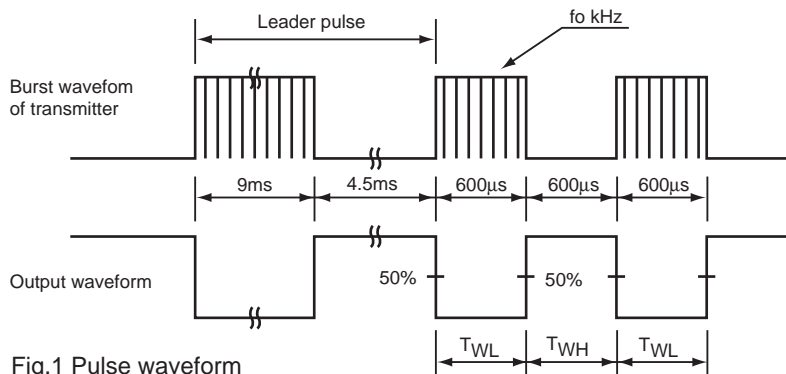
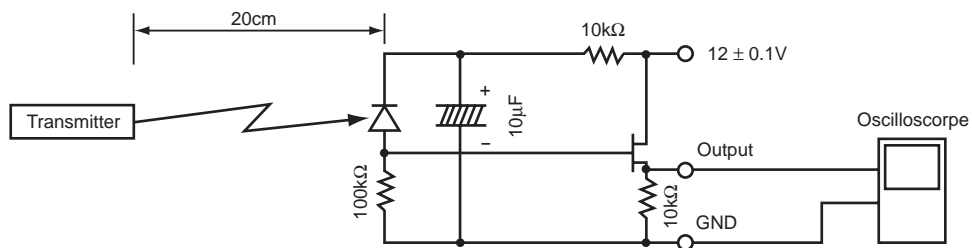

Fig.1 Pulse waveform
Fig.2 The output adjustment of transmitter
*2 As shown in Fig.1, burst wave shall be transmitted by our transmitter in item 7. Detector face illuminance : Ee < 10 lx
The Transmitter shall be defined by adjusting the output of transmitter to make $V_o=400mVp-p$ according to the burst wave shown in Fig. 1 and measurement condition shown in Fig.2. In addition infrared LED used in the transmitter is set to $\lambda_{peak}=945nm$, $\Delta\lambda=45nm$, and photodiode used in the receiver is set to $32nA / I_x$ ($V_R=5.0V$).